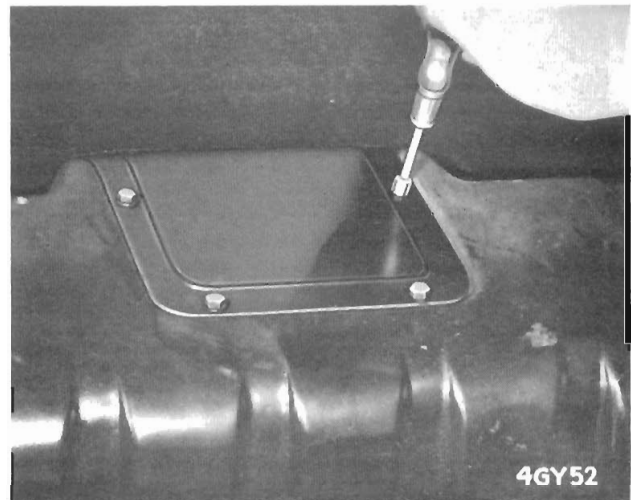

Fig. 49. Removing/fitting cover plate to spring access aperture
6. Raise boot lid, turn back the floor covering and remove the spring access plate from the floor (Fig. 49).
2. Refit the three studs (6) with the shorter threaded portion leading, into the axle casing. Refit the spring clamp plate (3) and tighten the nyloc nuts (4).
3. Apply "Prestik" sealer to the edge of the access plate, refit the plate, securing with four screws, Fig. 49, and liberally apply "Seclastik" to the joint.
4. Attach the vertical links (12) to the spring eyes with bolts (18), washers (16) and (17) and nyloc nut (15). Do not tighten the nut (15) at this stage.